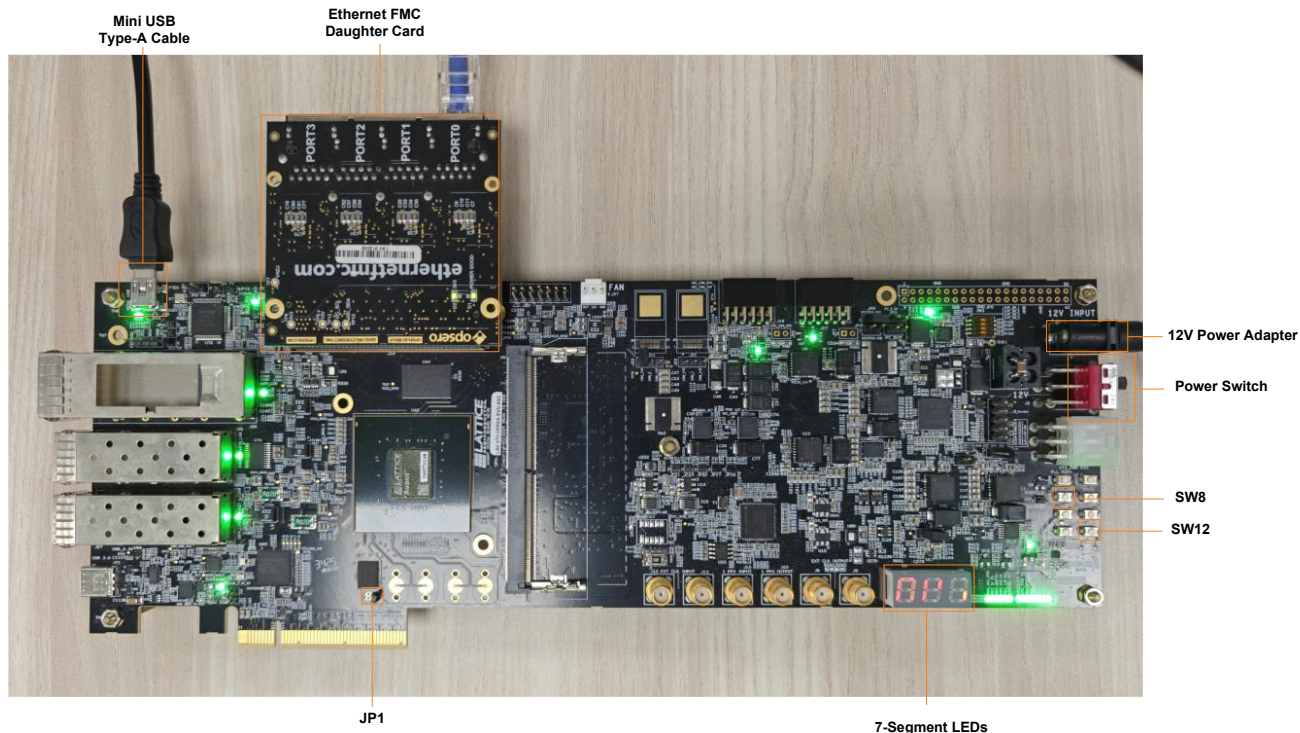

Figure 6.23. SW12 Reset Button and SW8 PROGRAMN Button
22. Press **SW12 Reset** button on the board as highlighted in Figure 6.23.